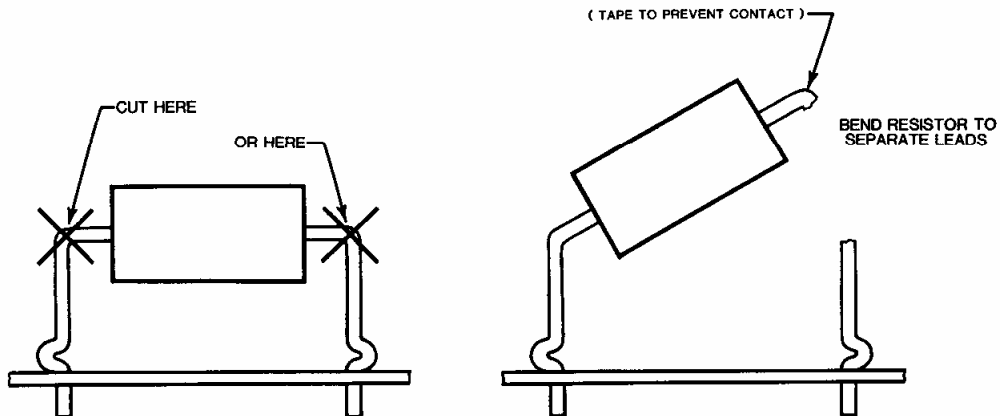

FIGURE 9-5, MODIFICATION OF DIFFERENTIAL TEMPERATURE THRESHOLDS
4. Cut resistor lead on each resistor about 1/8 inch ^{one} from the resistor body and separate the resistor body and lead to prevent contact after cover is installed. Cutting the resistor as indicated in figure 9-5 will allow a qualified distributor or IE factory to re-solder the connection should the modification later become undesirable.